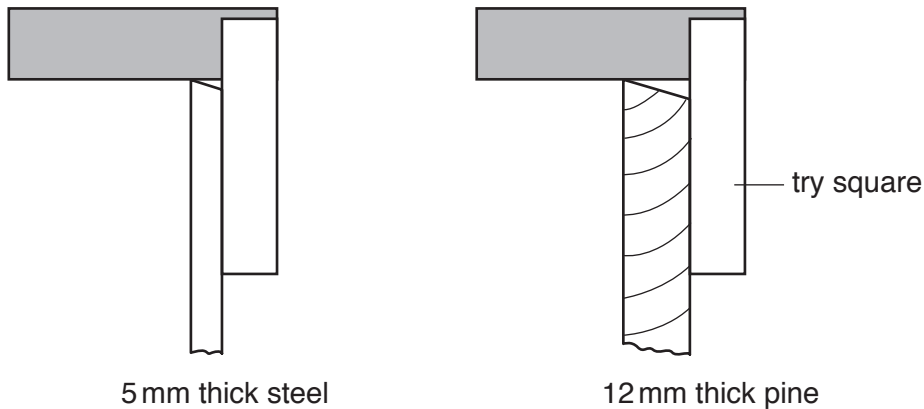

Fig. 2
- 2 Fig. 2 shows a try square being used to test an edge for squareness.